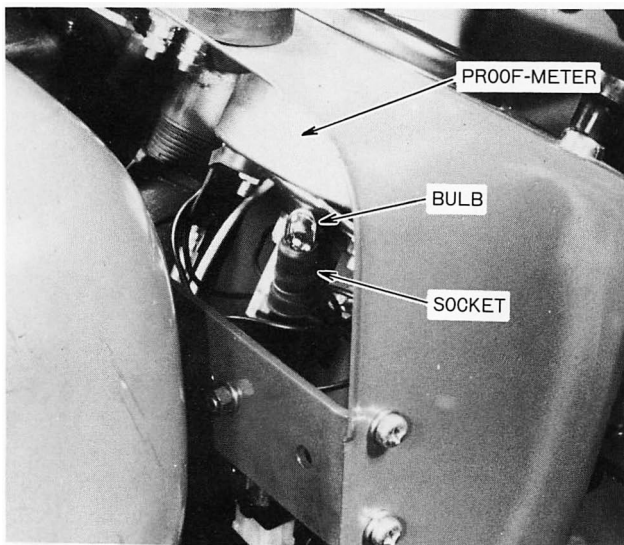

Figure 61 – Instrument Panel Lights
1. Pull out the light socket from the Proof-Meter, Figure 61.